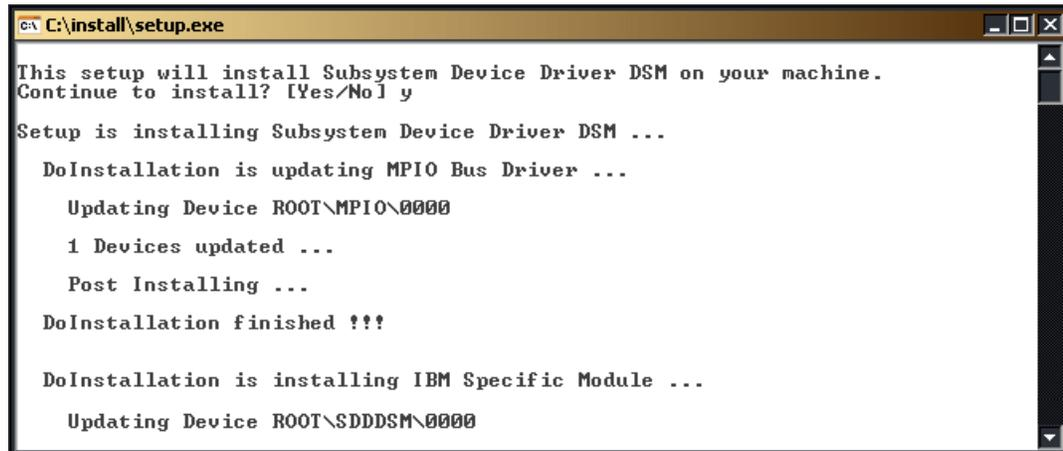

Figure 5-10 SDD installation window
3. The driver installation now takes place in the terminal window, as seen in Figure 5-10. Confirm and start the installation by typing `y`.